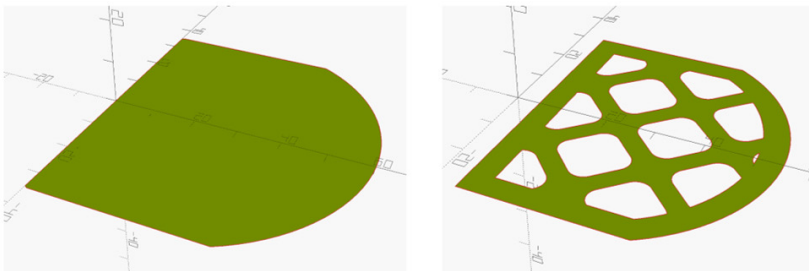

Figure 6.16 – The before and after `shell2D()` and `gridpattern()` operations
In *Figure 6.16*, we can see the effect of the `shell2D()` operation on a 2D sketch. The image on the left is the shape we created in *Chapter 4, Getting Started with OpenSCAD*, for the PVC hook. Applying the `shell2D()` and `gridpattern()` operations on this shape creates what we see on the right side:
3. Click on **Render** or hit *F6* on the keyboard (or *F5* to preview if the design is taking too long to render). Observe that the pattern looks like the pattern on the right side in *Figure 6.16*.